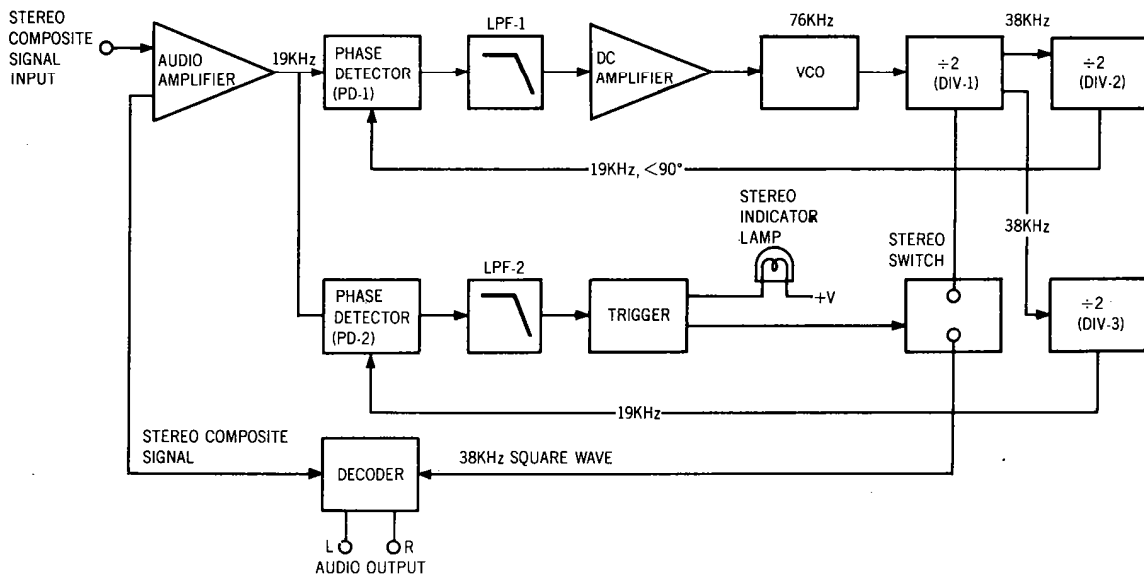

Figure 1. Block Diagram of the HA1156
coupled audio amplifier, where the signals are amplified and fed to output terminals J313 and J314. From these terminals, the audio signals are fed to the TAPE MONITOR OUT jacks through the function switch. Figure 1 presents an internal block diagram showing the functions of the PLL MPX stereo decoding IC HA1156. The input stereo composite signal, amplified by the audio amplifier, is delivered to the phase detectors PD-1 and PD-2. A part of the stereo composite signal is also delivered to the stereo decoder section. The VCO (Voltage Control Oscillator) produces a free run oscillation of approximately 76kHz with the time constant determined by capacitor C305 and resistors R311 and R312 connected on the outside to pin ⑭. The VCO output has its frequency divided down to 19kHz through the two frequency divider stages (DIV-1, DIV-2), and is returned to the phase detector PD-1, which contains two input terminals designed to produce an output in proportion to the product of the two input signals. The signal fed to one PD-1 input is a 19kHz square wave formed through frequency division of the 76kHz VCO output signal by the two frequency divider stages DIV-1 and DIV-2, and the 19kHz pilot signal included in the stereo composite signal, as a reference signal is fed to the other PD-1 input. Therefore, the output of PD-1 which has gone through the low pass filter, LPF-1, provides DC output voltage in proportion to the phase variance between the two inputs. This DC output voltage is amplified by the DC amplifier, and is supplied to the 76kHz VCO as a control voltage. This means that the output frequency and phase of the VCO have been phase-locked to the input pilot signal. The 38kHz sub-carrier reproduced by the PLL, as stated above, is delivered through the stereo switch to the stereo decoder section as a switching signal, thus driving the decoder stage. One of the inputs of PD-2 is given the 19kHz resulting from the frequency division completed by DIV-1 and DIV-3, whereas the other input receives the 19kHz output contained in the composite signal, and the output is provided with a DC component in proportion to the amplitude of the pilot signal.